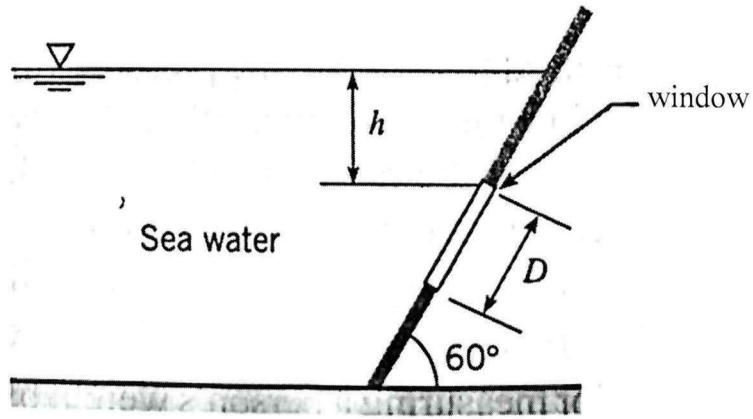

FIGURE Q1 (c)
- (c) A round viewing window of diameter, $d = 0.8\text{m}$ is situated in a large tank of seawater (specific gravity, $SG = 1.03$). The top of the window is 1.2m below the water surface, and the window is gled at 60° with respect to horizontal as shown in **Figure Q1 (c)**.